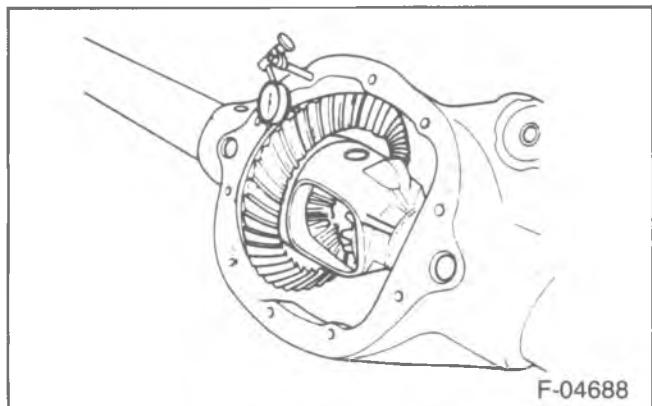

Figure 16—Checking Backlash
- Place the indicator stem at the heel end of a tooth (figure 16).
- Install the differential bearing caps (31) and bolts (32).